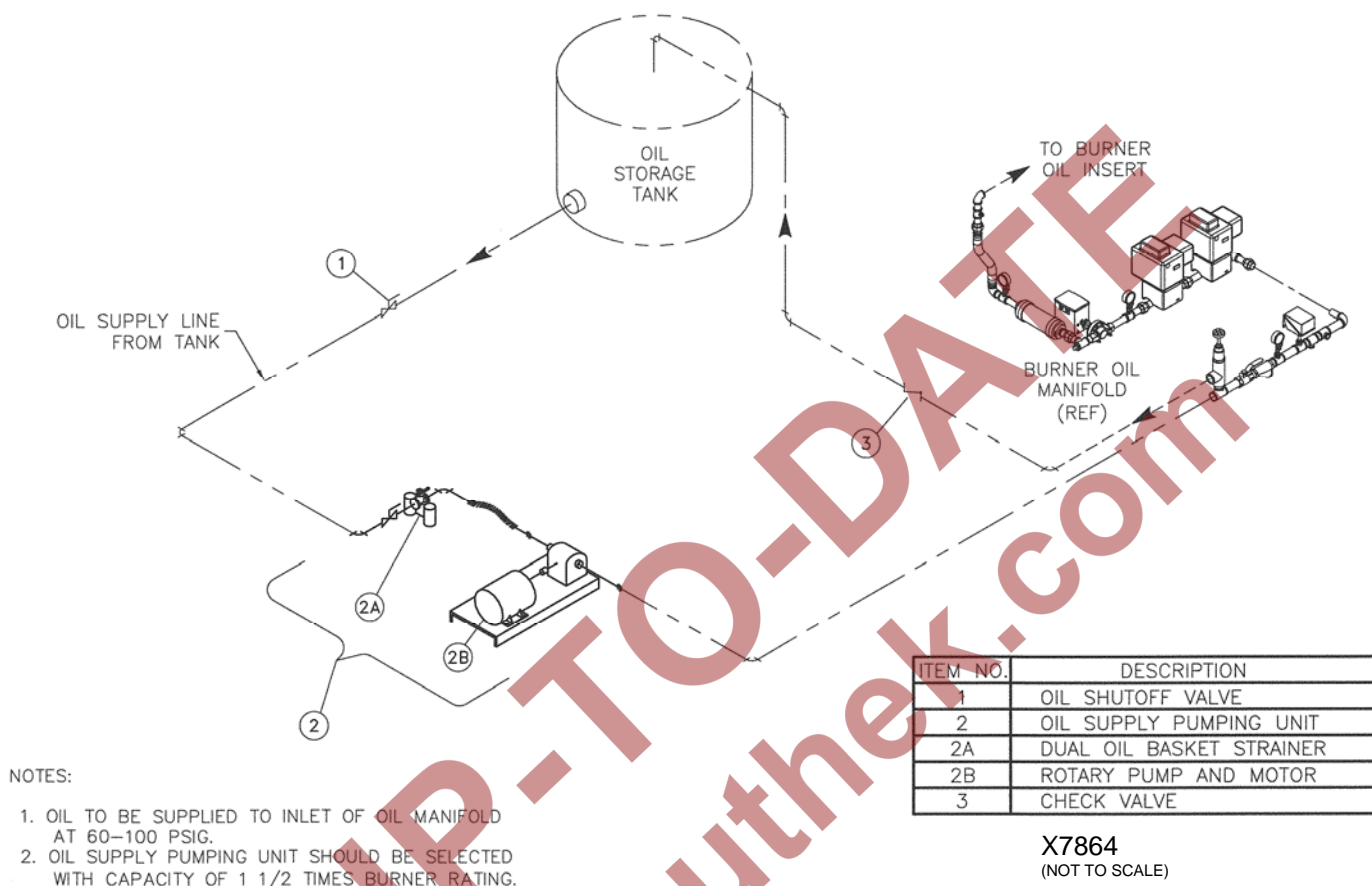

Figure 5. Typical Schematic of Burner Light Fuel Oil Piping
2. For recommended piping sizes see Table 8. Before attaching fuel lines, purge the piping to remove scale and dirt that could clog and damage oil equipment. Follow Figure 5 for the suggested piping layout.